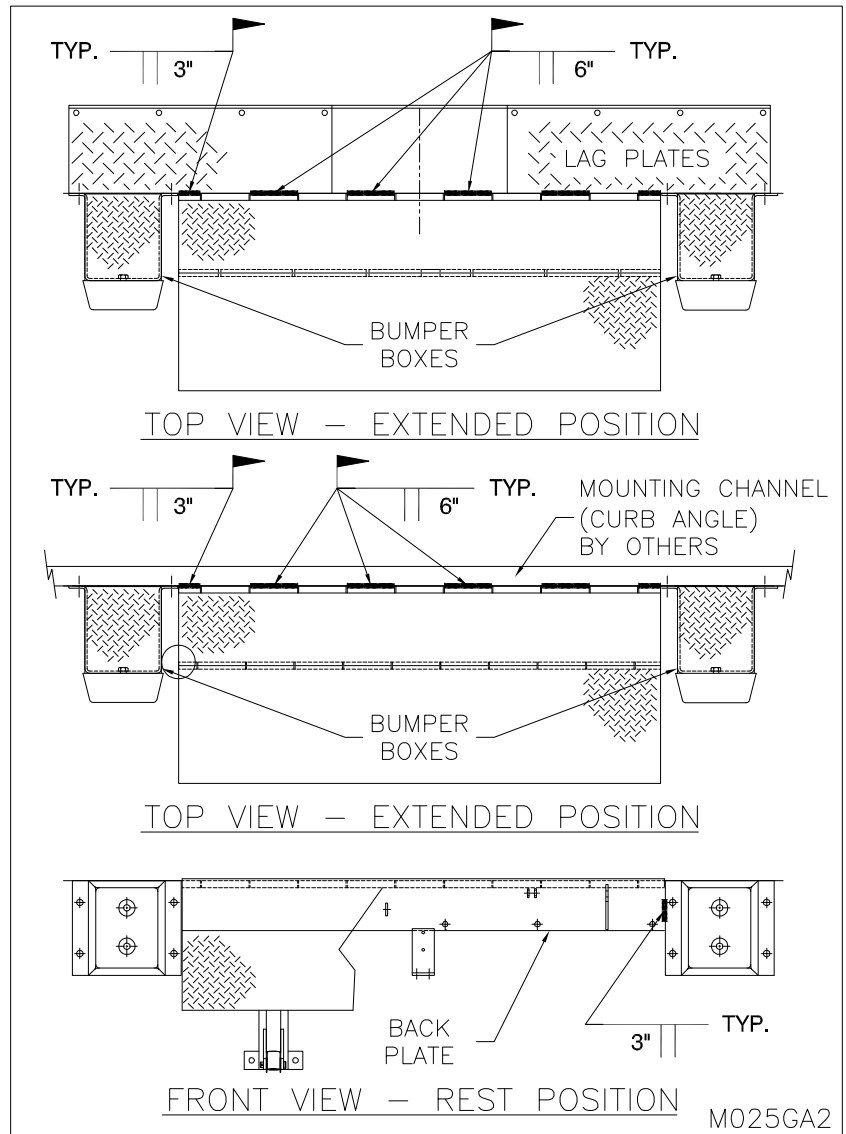

Figure 5: Welding at Final Installation
1. Stitch weld full length back plate, using 5 - 6" welds. Weld 2" weld around upper corners of back plate and tack weld all anchor heads in place (See Figure 5: Welding at Final Installation on page 9 and WELDING REFERENCE INFORMATION on page 9).